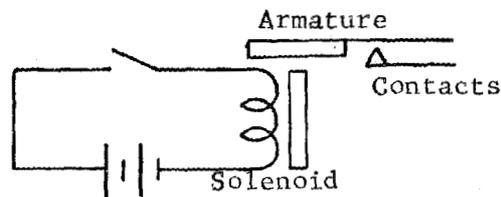

Fig. V-23. Diagram of a Relay, Relay Contacts, Battery, and Switch. (The core is shown outside the coil in the sketch, although it is actually within the coil.)
13. The reason for having iron cores in solenoids is to: (1) make the assembly mechanically strong, or (2) increase the strength of the solenoid's magnetic field.
14. The electromagnetic relay (or just "relay" for short) (2) is a common electrical device which depends upon an iron-core solenoid for its operation. In Figure V-23, when the switch is closed, the armature (made of iron) is attracted to the core of the solenoid, thereby closing the relay contacts. The device is valuable in a number of ways. For example, it provides complete electrical isolation between the controlling and the controlled circuits. An ac circuit can be turned on and off using dc, or a high-voltage circuit may be controlled from one of low voltage. One important function of a relay is to provide electrical _____ between circuits.